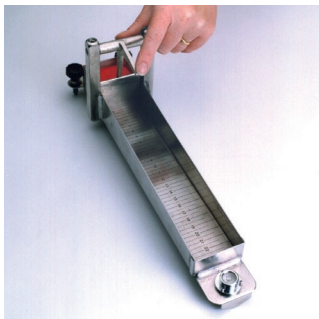

Figure 2
2. Release the gate by pressing the lock release lever, (the spring action ensures it opens instantaneously). (Fig.2)